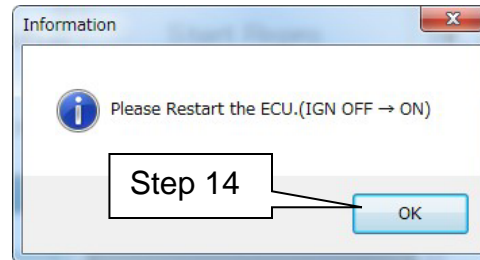
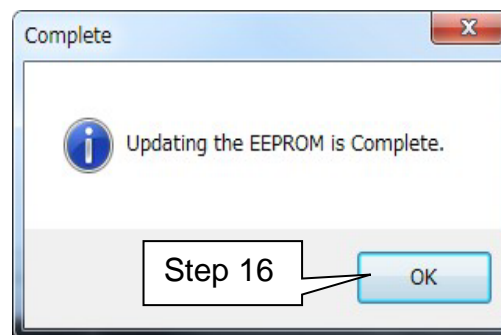

Figure 8
Figure 10
- After selecting OK in Figure 8, the OCS reprogramming will likely complete items 5 through 7 quickly (see “Complete” screen, Figure 10 below).
15. When this screen displays (Figure 10), OCS reprogramming is complete.